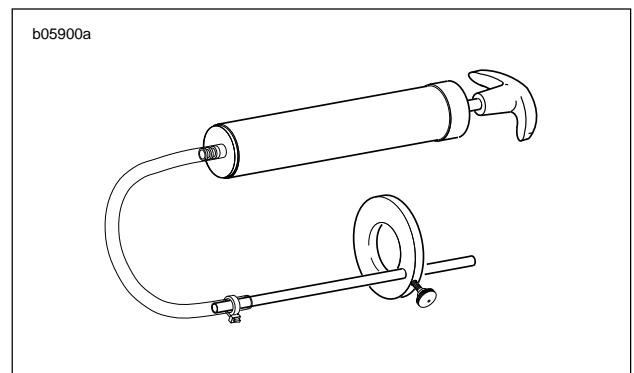

Figure 1-35. Pro Level Oil Gauge
- b. Measure distance from fork oil (4) surface to top of outer tube (1) using **PRO-LEVEL OIL GAUGE** (Part No. B-59000A). See Figure 1-35.